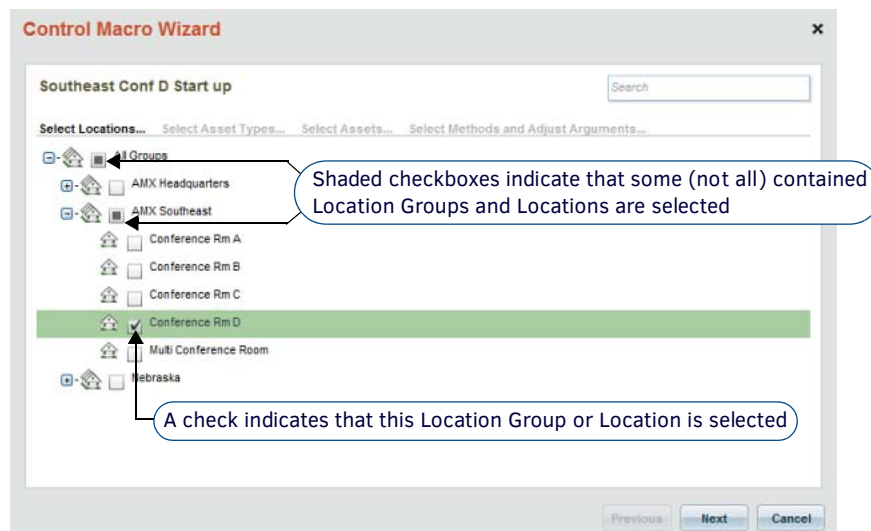

FIG. 278 Control Macro Wizard - Select Locations
4. Click to select the Locations and Location Groups to include in this control macro (FIG. 278):